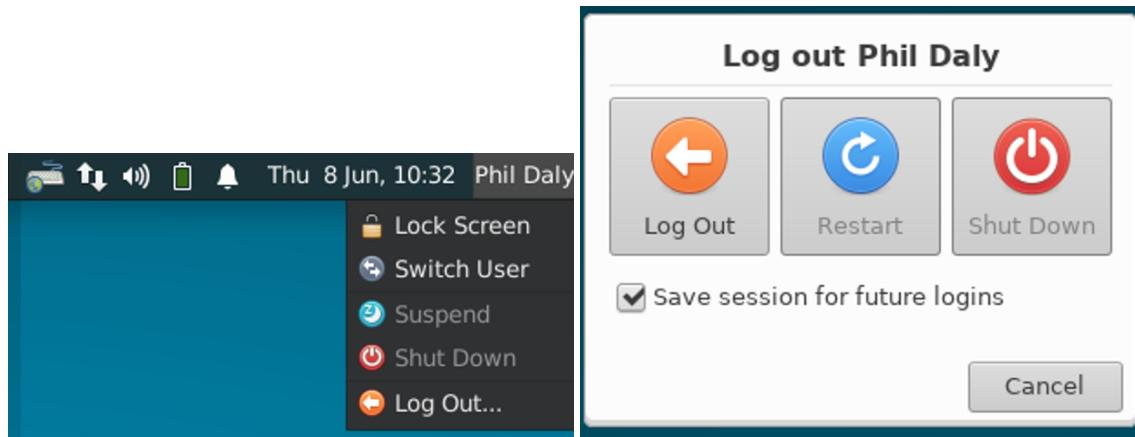

Figure 7: Shutting Down the Computers (**bonsai**, **banzai**).
4. The pop-up window shown in Figure 7 should appear so click on ‘Shut Down’.